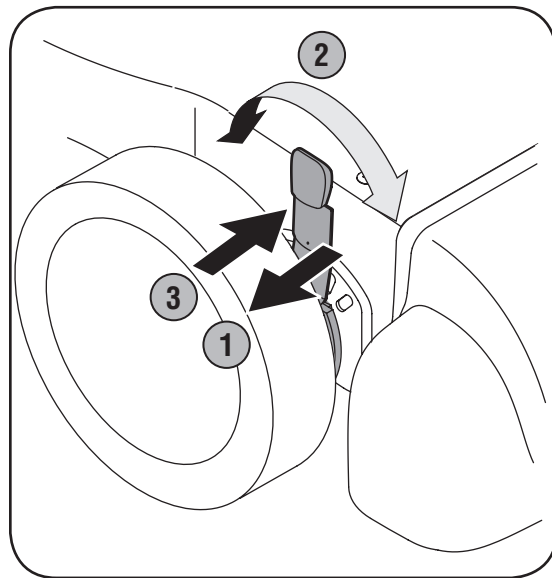

Figure 3-8
1. Depress nozzle height adjustment lever towards wheel. See Figure 3-8.